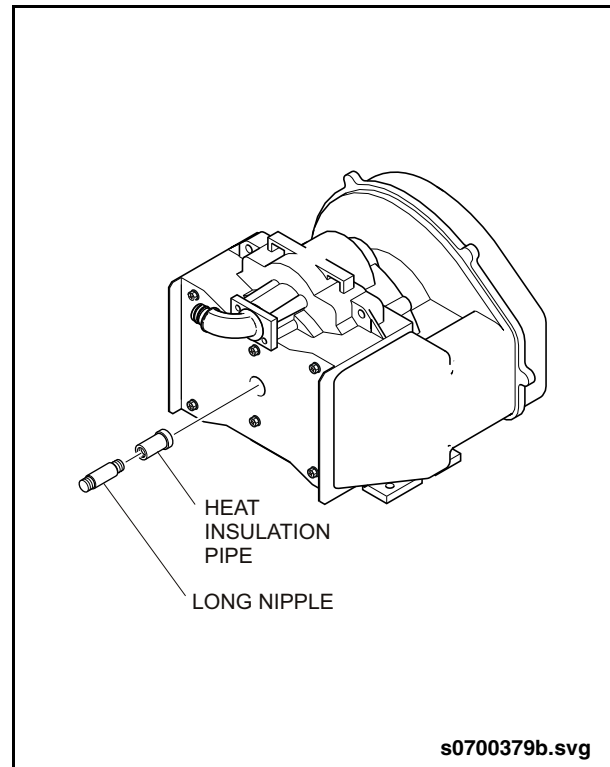

Fig. 10: Heat Insulation Pipe
4. Unthread the long nipple from the compressor housing. See "Fig. 10: Heat Insulation Pipe" on page 7.